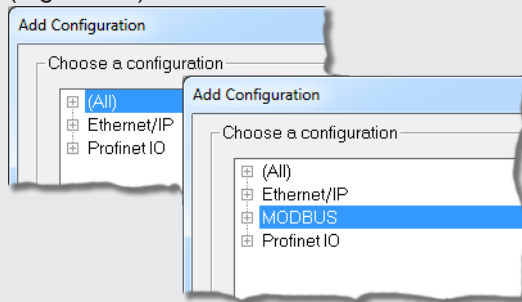

Figure 4-3: Example: KVB Panel
- If KVB Panel is selected, there is no node to add a Modbus configuration in the Fieldbus Editor. (Figure 4-3)